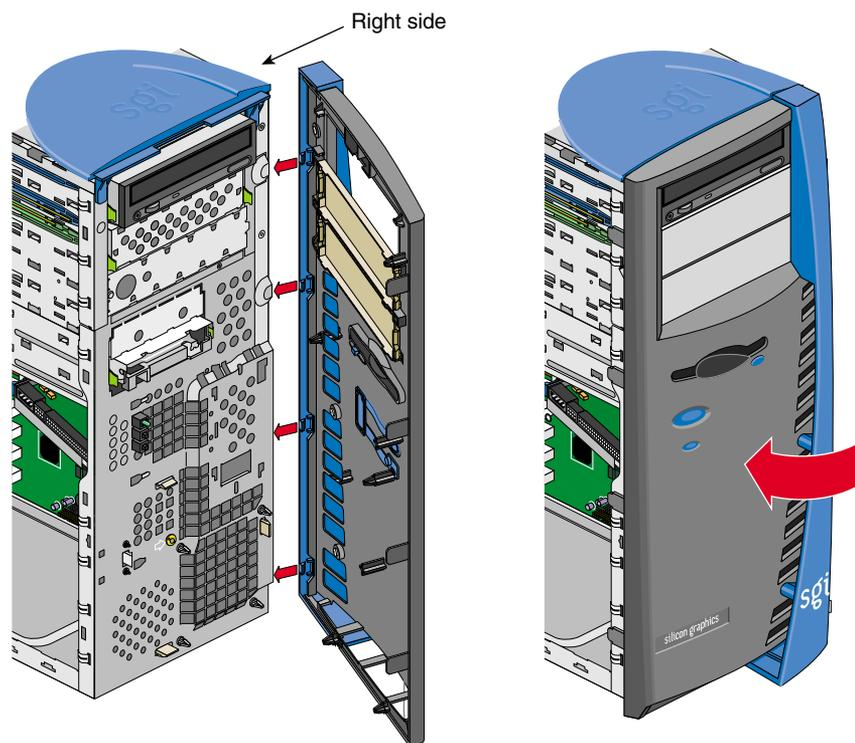

Figure 2-31 Replacing Bezel
- Locate the four tabs on the right side of the bezel, as shown in Figure 2-31.
- Place the right side of the bezel on the chassis so as to insert the four tabs in their respective slots, as shown in Figure 2-31.